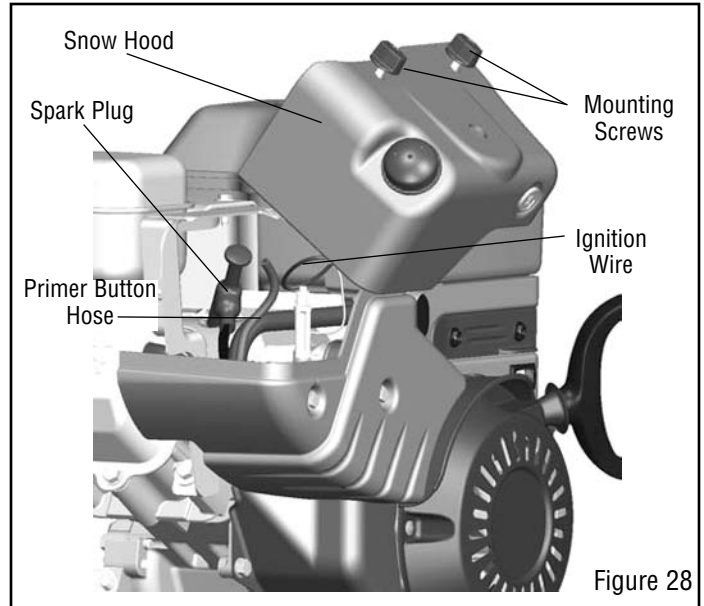

Figure 28
3. Remove the **mounting screws** (see Figure 28).
7. Mount the snow hood to the engine and secure with the mounting screws (see Figure 28).